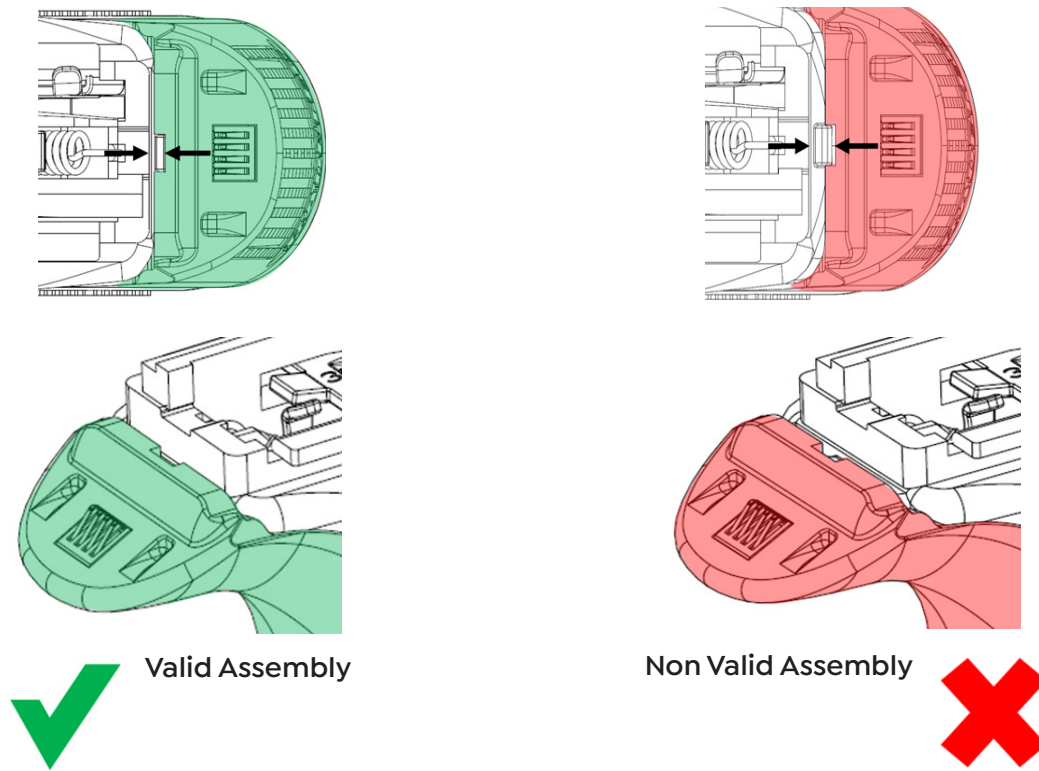

Figure 55: Valid and Non Valid assemblies of the upper backstrap tip onto the frame.
3. Press the backstrap onto the frame until side holes in backstrap align with the holes in the pistol's grip, make sure the upper tip is in place (Figure 55).